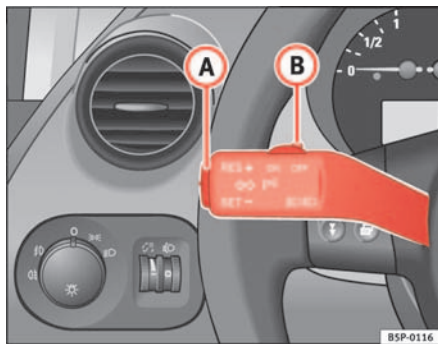

Fig. 141 Turn signal and main beam lever: switch and rocker switch for CCS
- Press the lower part of the rocker switch briefly when you have reached the speed you wish to set **SET** ⇒ fig. 141 **A** once.